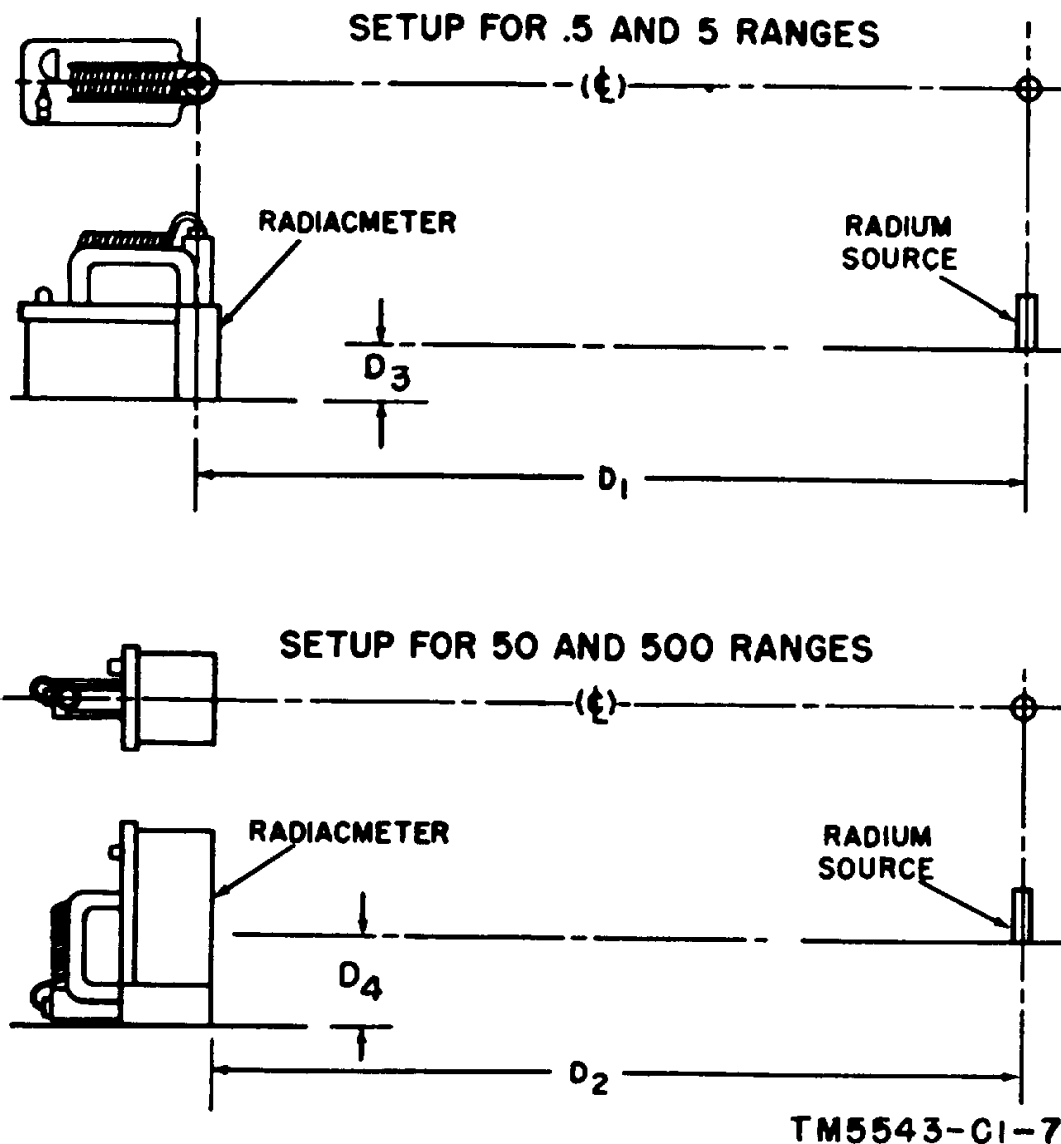

Figure 7-5. (Superseded) Calibration set-up data.
Step 2. Arrange the equipment as indicated in figure 7-5 according to distance measurements given in table 7-1.1. Measure and adjust \* \* \* source in inches.